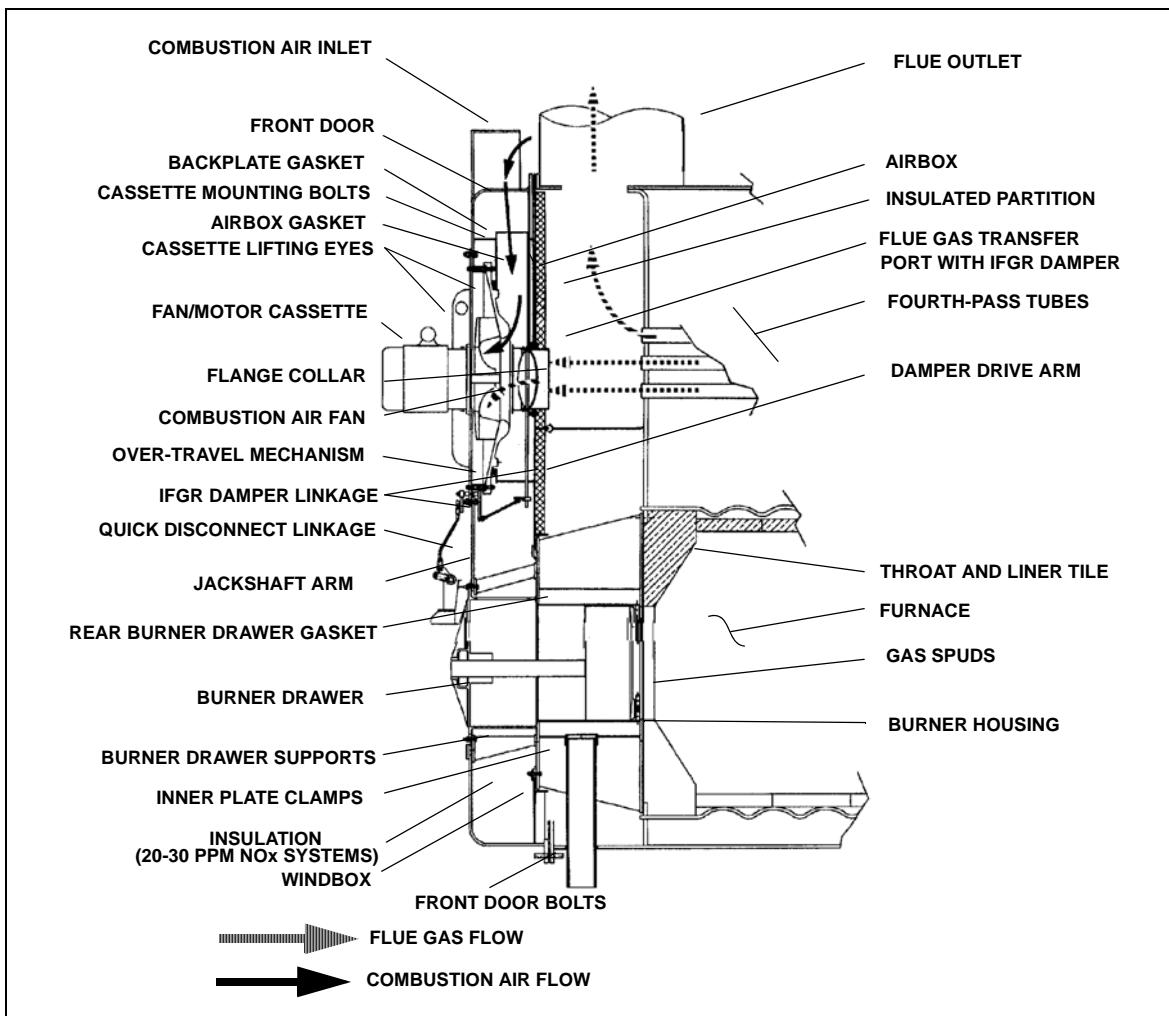

Figure 1-6 Induced Flue Gas Recirculation System, General Arrangement
- 1. Flue Gas Transfer Port, IFGR Damper, and Flange Collar (Figure 1-6). The flue gas transfer port is a tube that allows the flue gases to travel from the exit of the fourth-pass tubes to the entrance of the combustion air fan. The IFGR damper controls the volume of flue gas induced into the combustion air stream. The damper is located in the flue gas transfer port and is positioned by the control linkage.